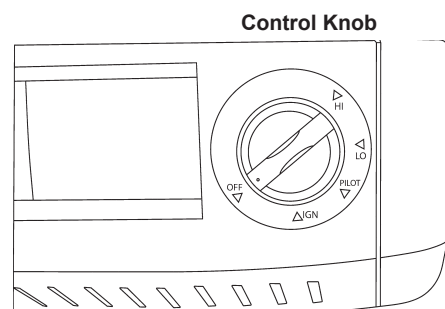

Figure 16
3. Push in gas control knob and slightly turn clockwise  to the OFF position (see figure 16).